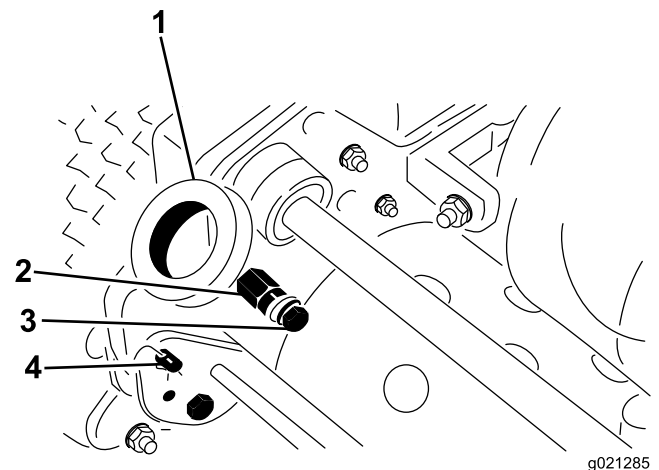

Figure 2
1. Remove the bolts, locknuts, and washers securing the bottom of the handle arms to each side of the mower (Figure 2).
2. Remove the hairpin cottes and ring pins securing the handle arms to the rear of the frame (Figure 2).
3. Insert the handle ends through the holes in the handle arms and align the holes with the mounting pins (Figure 2).
1. Remove the hairpin cotters from the ring pins on each side of the mower (Figure 2).
2. While supporting the handle, remove the ring pins from each side and raise or lower the handle to the desired operating position (Figure 2).